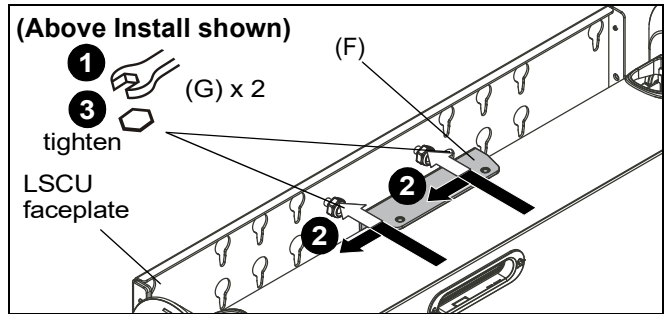

Figure 3
1. Install two M8 hex nuts (G) onto back of LSCU faceplate leaving 1/8" between nuts and faceplate. (See Figure 3)
2. Install adapter bracket (F) over nuts (G) and slide over into mounting position. (See Figure 3)
3. Tighten two M8 hex nuts (G) to secure adapter bracket (F) to back of LSCU faceplate. (See Figure 3)